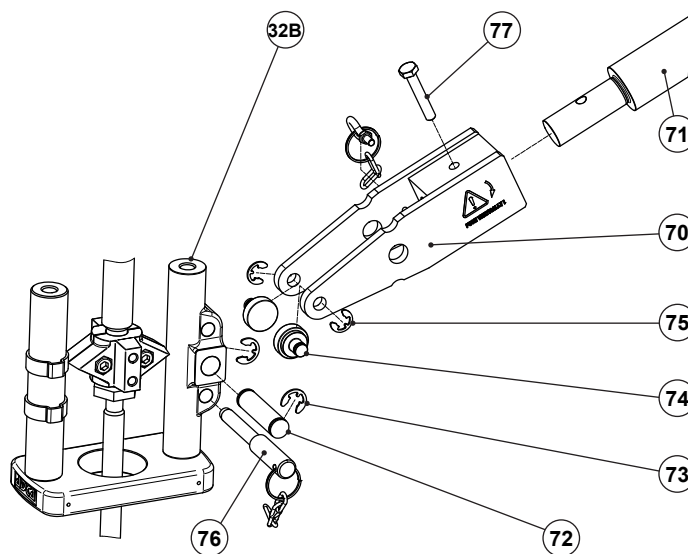

Fig. 6
4. Carefully place the actuator yoke over the valve stem, aligning the cylindrical pin (31A), and lower it until the lower actuator flange (31) touches valve bonnet (5) shoulders.
5. Align the yoke columns and secure the actuator with the actuator lock nut (9) using a c-hook wrench and a soft faced hammer – see section 9.9 – Tightening torques.
6. Apply a signal pressure which corresponds to the lower operating range value of the actuator (see actuator nameplate) and manually adjust the adaptor (63) until it presses tightly against the actuator stem.
8. Fit the two coupling halves (62A, 62B) and clamp them together, loosely tightening the two bolts (60) and nuts (61).
10. Operate the actuator through its full stroke range a couple of times to ensure alignment and tighten the bolts (3) tightly.
12. Align the crimp clamps (35) with the tip of the coupling (stroke indicator) at the end positions.
- a. Fit the lever (70) in the yoke lever column (32B) and assemble the rollers (74) with the elastic rings (75), according to Fig. 6.
- b. Position the rollers below the lock nut (63A) and align the center hole of the lever (70) with the mating hole on the yoke lever column (32B).
- c. Insert the lever axis shaft (72) on the assembly and fix it with the elastic rings (73).